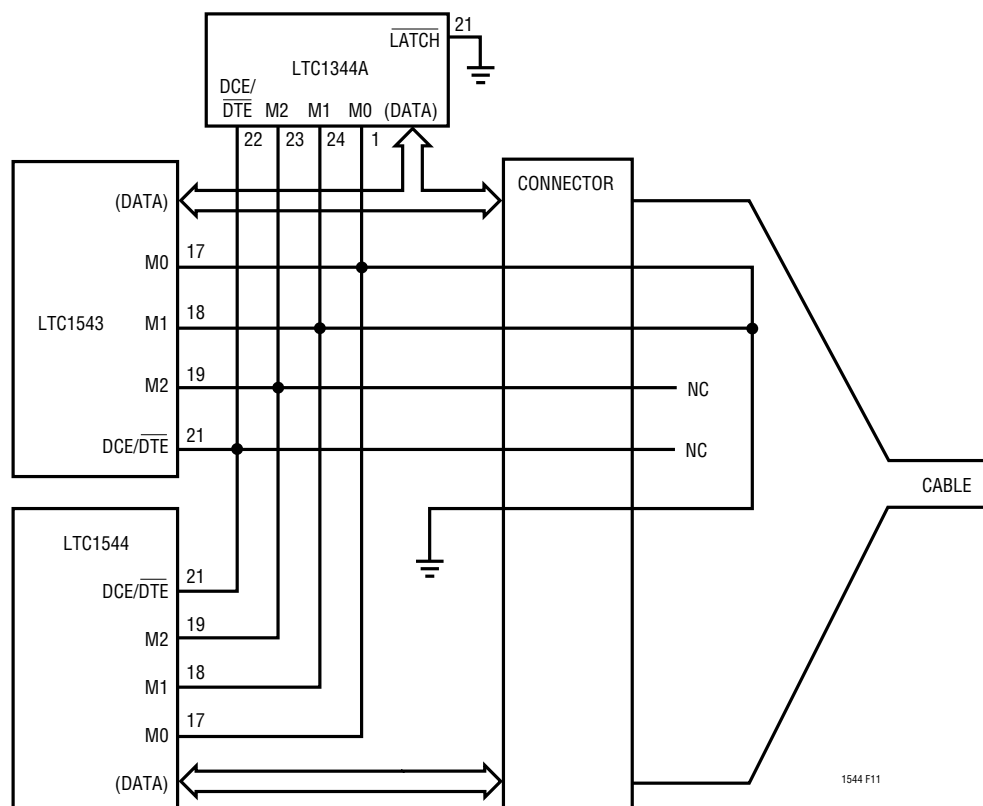

Figure 11: Single Port DCE V.35 Mode Selection in the Cable
The interface protocol may be selected simply by plugging the appropriate interface cable into the connector. The mode pins are routed to the connector and are left unconnected (1) or wired to ground (0) in the cable as shown in Figure 11.